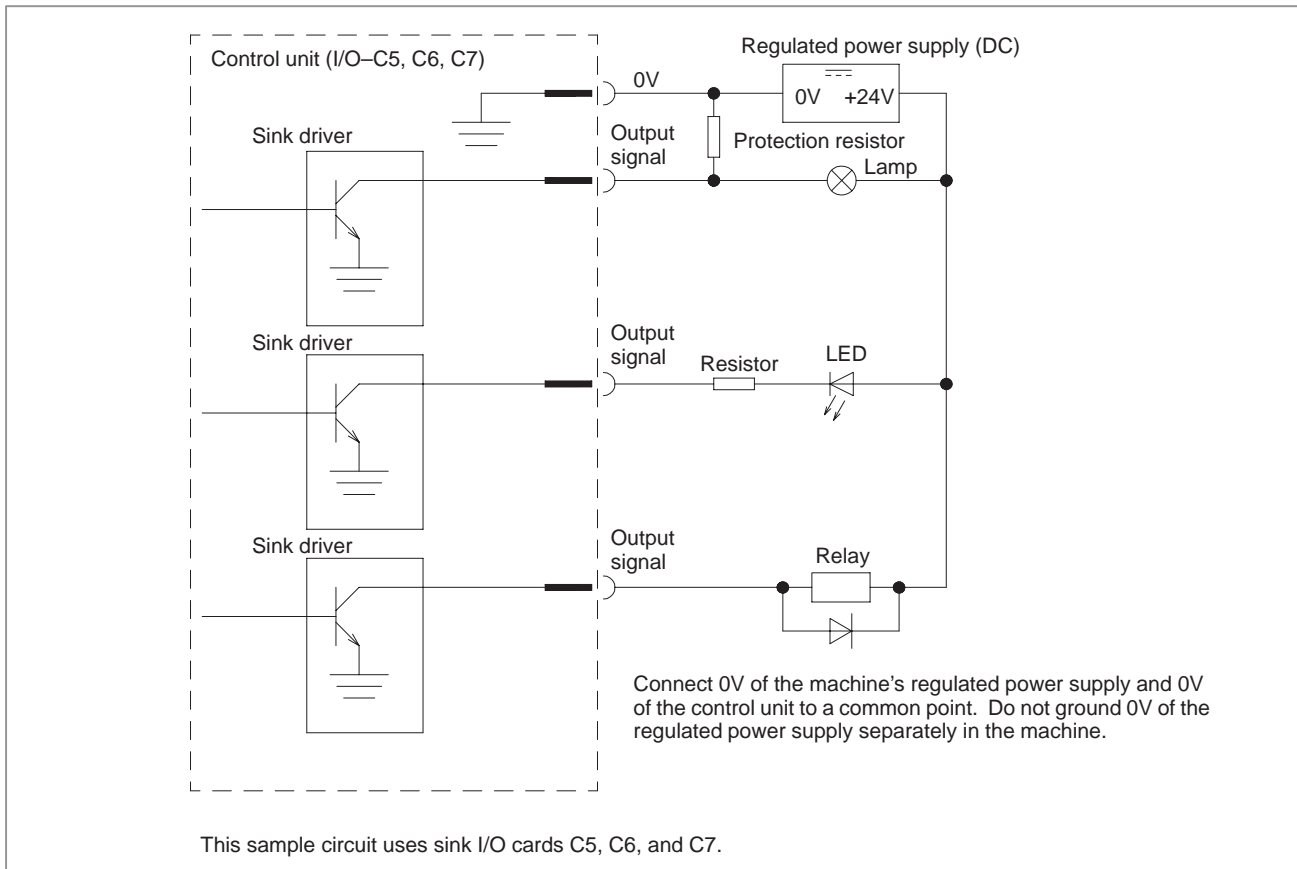

Fig. 6.2.1 (g)
- (d) When lighting a lamp directly with a solid state relay output, a rush current may flow to damage the driver. A protection circuit as Fig. 6.2.1 (n) must be inserted and it must be used within the rated voltage and current, including instantaneous current and voltage.
(2) Direct current output signal B